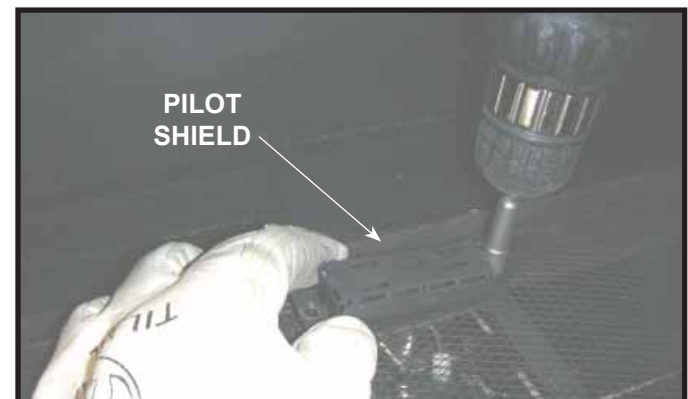

Figure 10. Removing Pilot Shield.
2. Remove pilot shield as shown in Figure 10. Discard.